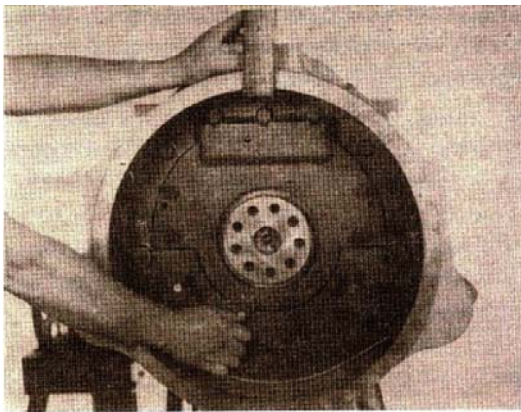

Fig. 14-41, Install the flywheel housing capscrews
5. Start the capscrews and tighten them finger light (Fig. 14-41). Remove the guide studs. Install and tighten all the capscrews.